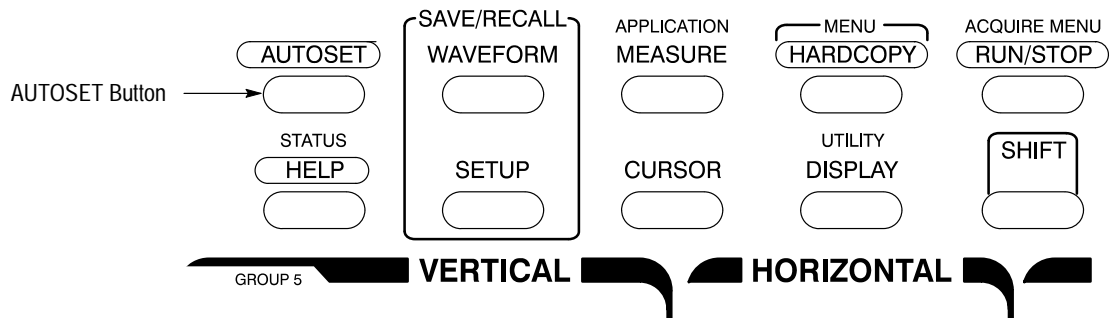

Figure 1-12: AUTOSET Button Location
3. Press **AUTOSET** (see Figure 1-12) and observe the stable waveform display.